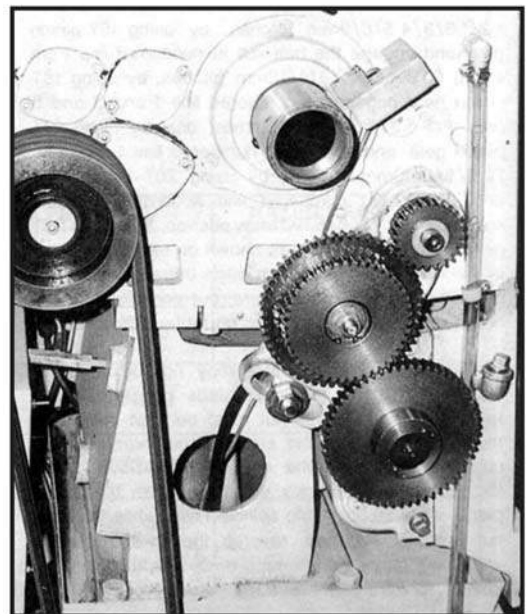

Fig.14
3. By advancing the driver gear (Fig.14) a calculated number of turns to advance the spindle by one pitch of the thread to be cut.